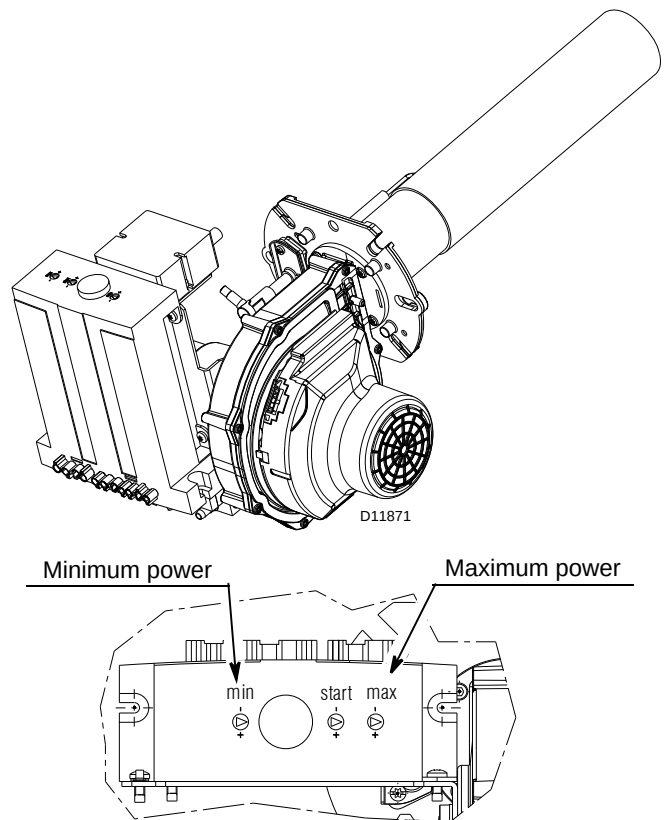

Fig. 10
Key to lay-out (Fig. 10)
- Check the trimmer settings on the control box (Fig. 10).
The speed of the motor can be adjusted by means of three "Trimmers" (Fig. 10).
To increase or decrease its value, adjust the trimmer MAX located on the control box (Fig. 10).
Minimum output should match the value required by the boiler that is used. To increase or decrease its value, adjust the trimmer MIN located on the control box (Fig. 10).
The **ignition output** can be varied by acting on the Trimmer START located on the control box (Fig. 10).